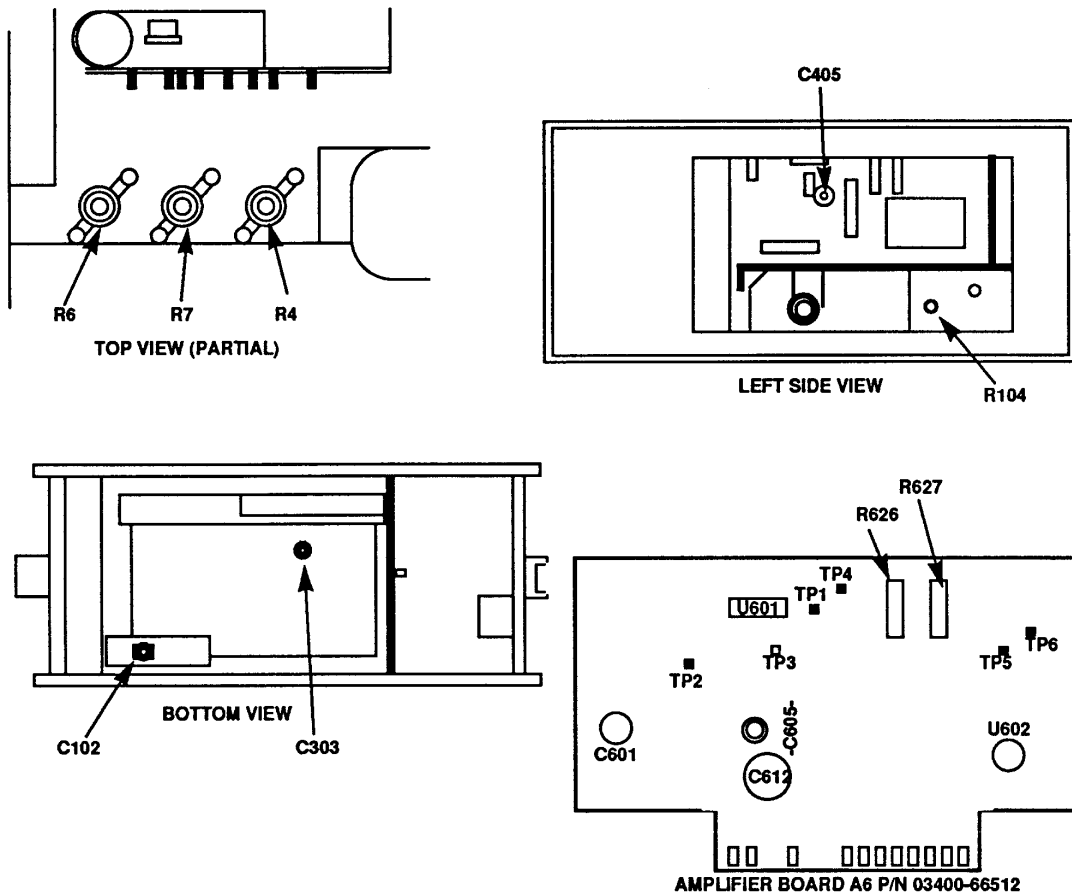

Figure 1. Test instrument - top, left side, bottom view, and A6 board, P/N 03400-66512.
(1) Adjust R4 (R627 for TIs with amplifier board A6, P/N 03400-66512) (fig.1) until digital multimeter indicates -1.00 V.
(2) If necessary, adjust R6 (fig. 1) for full scale indication on TI.
(3) Set calibrator for a 10 mV, 400 Hz output. Adjust R6 (fig.1) until TI indicates full scale (R).
(4) Set **RANGE** switch to **.1 VOLTS**.
(5) Adjust R7 (R626 for TIs with amplifier board A6, P/N 03400-66512) (fig. 1) until TI indicates 0.01 V (1 /10 scale) (R).
(6) Set **RANGE** switch to **.01 VOLTS**.
(7) Repeat (3) through (6) above until no further adjustment is necessary.
(8) Set calibrator for a 1.0 V, 400 Hz output. Adjust R104 (fig. 1) until TI indicates 1 (R).
(9) Set calibrator for an initial 900  $\mu$ V 1 kHz wideband output, then adjust for the TI indication record for table 3 (.0009 V).
(10) Press calibrator **NEW REF** pushbutton, then set frequency to 10 MHz. Adjust C405 (fig. 1) for the 1 kHz reference established **b(9)** above (R).
(11) Vary calibrator frequency between 3 and 10 MHz and if required, readjust C405 (fig. 1) for best in-tolerance condition.
(12) Set calibrator for an initial 0.9 V, 1 kHz wideband output, then adjust for the TI indication recorded for table 3 (0.9 V).
(13) Press calibrator **NEW REF** pushbutton, then set frequency to 100 kHz. Adjust C102 (fig. 1) for the 1 kHz reference established in **b(12)** above (R).
(14) Vary calibrator frequency between 100 kHz and 10 MHz and, if required, readjust C102 (fig. 1) for best intolerance condition.
(15) Set calibrator for an initial 0.3 V, 1 kHz wideband output, then adjust for the TI indication recorded for table 3 (0.3 V).
(16) Press calibrator **NEW REF** pushbutton, then set frequency to 3.0 MHz.). Adjust C303 (fig. 1) for the 1 kHz reference established in **b(l5)** above (R).
(17) Vary calibrator frequency between 3 and 10 MHz and, if required, readjust C303 (fig. 1) for best in-tolerance condition.